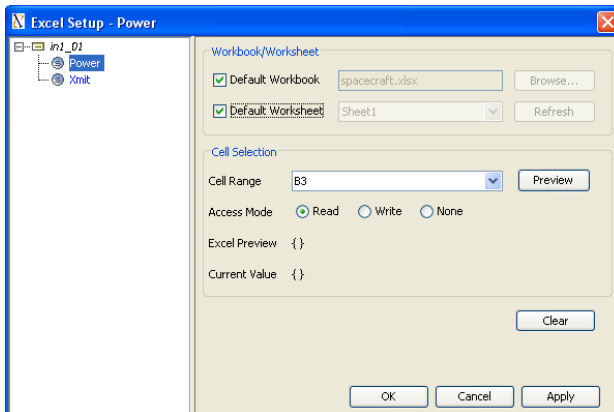

Figure 6.14 ParaMagic- Excel Set-up for slot
- d. In the Excel Setup browser, select the Power slot. See Figure 6.14.